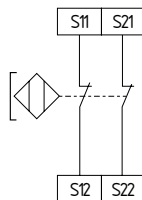

Fig. 5
- Fig. 5: limit switch LHS, partially acting on switch-off level 1 (safety enabling circuits 13-14, 23-24)